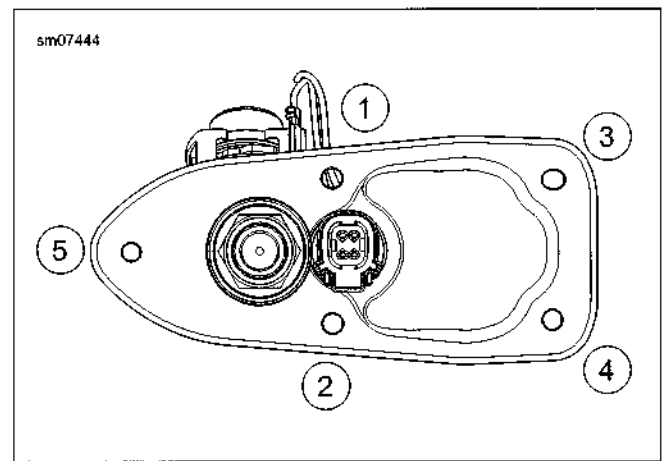

Figure 4-49. Fuel Pump Module Torque Sequence
- See Figure 4-49. Install screws. Tighten to 40-45 in-lbs (4.5-5.1 Nm) in sequence.